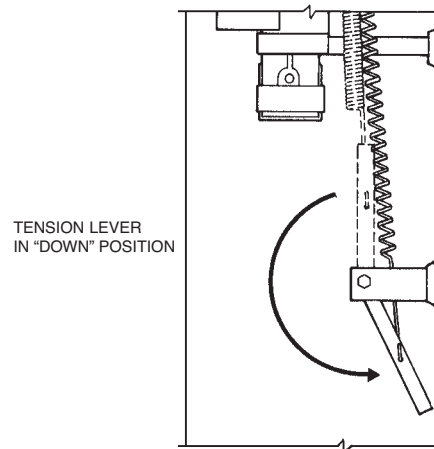

FIGURE 17
21. Lower tension lever to “DOWN” position. See Figure 17.